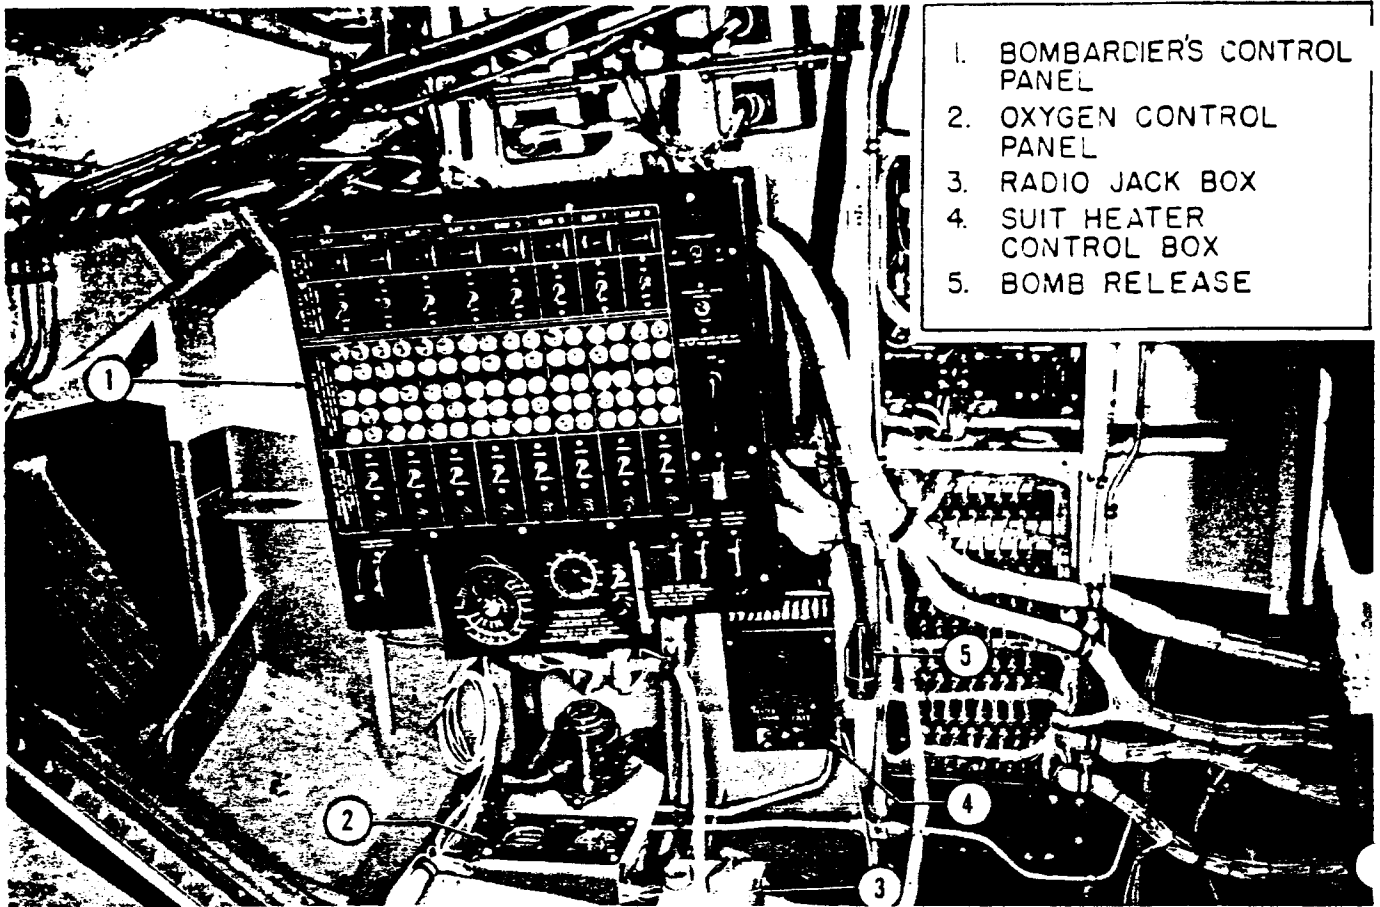

Figure 10. Bombardier's Station
7. BOMBARDIER'S STATION. (See figure 10.)
b. INTERPHONE.- The bombardier's interphone jack box is located on the floor under the bomb control panel. (See 3, figure 10.) Refer to paragraph 2. c. preceding.
c. OXYGEN.- The oxygen regulator and gauges are on the floor adjacent to the interphone jack box. (See 2, figure 10.)
d. SUIT HEATER CONTROL.- A suit heater control box is mounted on the cabin wall to the bombardier's right. (See 4, figure 10.)